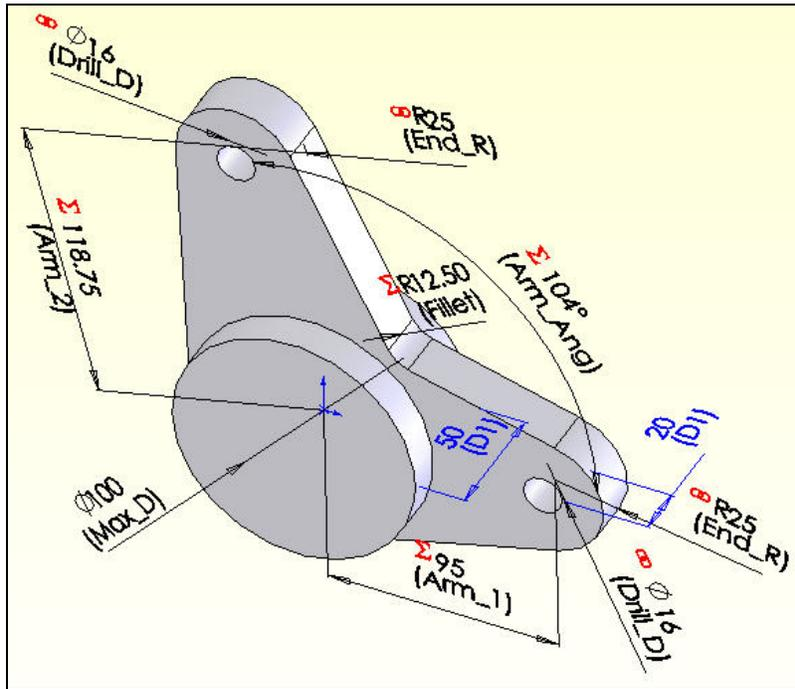

Figure 13 Extruded parametric sketch
4. Pick the regions outside **Max\_D** and assign an extrusion length of 20. (Figure 13)